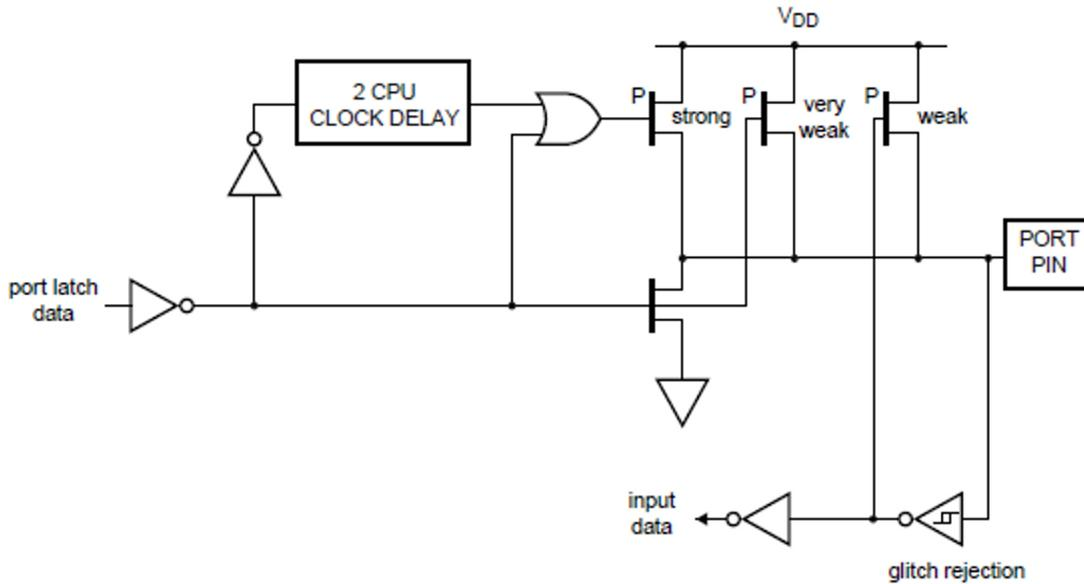

FIG. 6: Bi-directional mode
- The other choice is *Bi-directional*. This is a popular choice, and probably what you will want to work with primarily in your projects. It has the ability to be both an input, and an output pin. This is shown in Figure 6.